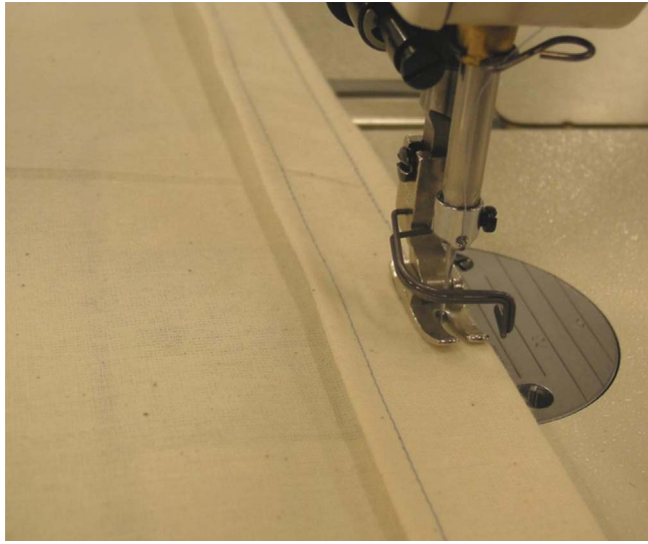

Figure 11
3. With the right side of the placket uppermost, apply topstitching, see Figure 11, Stage Two.